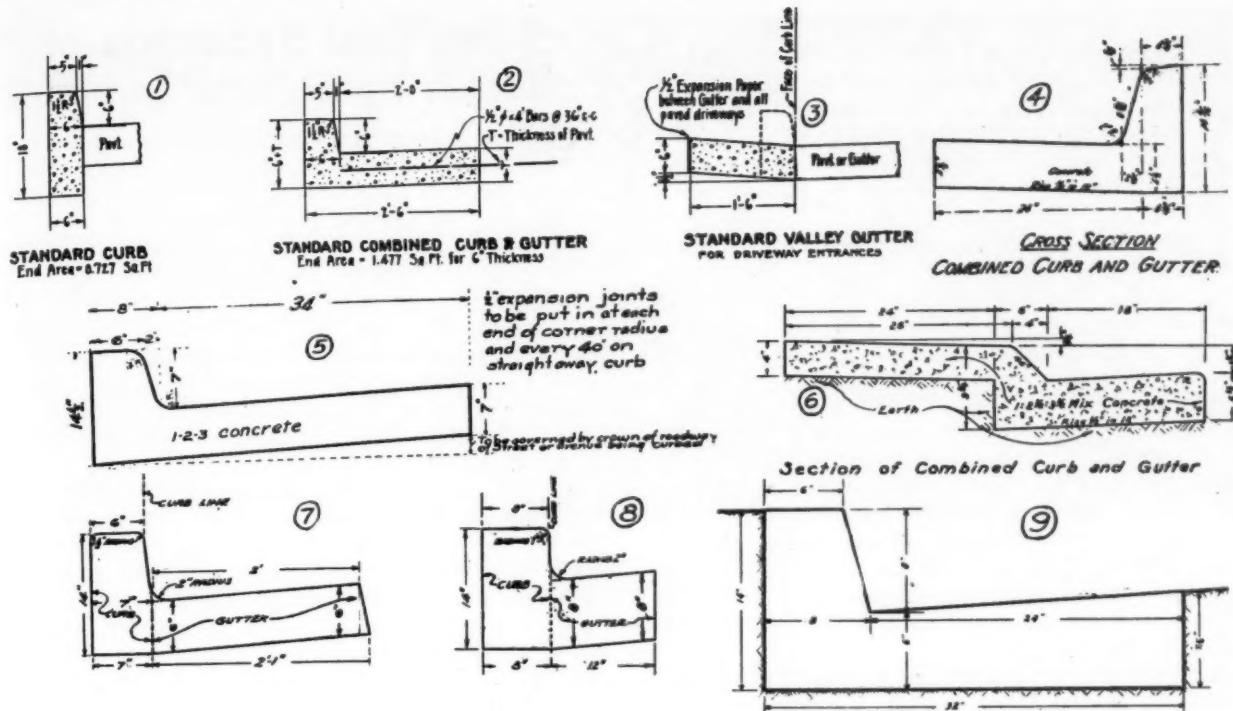

Fig. 1. These curbs and gutters are described in the accompanying text.
In Fig. 1, items 1, 2 and 3 were sent us by S. H. Smith, city engineer of South Haven, Mich. The standard curb, as shown, has a slope of 1 inch, and is 6 inches high and 18 inches deep. The combined curb and gutter is pavement thickness plus 6 inches, and extends 2 feet beyond the curb, being tied to the pavement with $\frac{1}{2}$ -inch round bars, 4 ft. long, spaced 36 inches apart. The standard valley gutter is shown in 3, Fig. 1. Item 4 of Fig. 1 was sent us by Albion K. Vickery, city
engineer of Denver, Colo., as was item 6, just beneath it. The combined curb and gutter (4), is more than 8 inches high and has a slope of $2\frac{1}{8}$ ins. Item 6, Mr. Vickery says, is a new design for one of their proposed improvements districts, consisting of a narrow walk adjoining a sloping 4-inch curb with an 18-inch gutter. Item 5, Fig. 1, was sent us by F. E. Young, city engineer of Cedar Rapids, Iowa, and the illustration shows all essential information.
Items 7 and 8 of Fig. 1 are from Oakland, Calif. C. A. Reed, street improvement engineer, in an accompanying letter says: "The 6-inch curb and 2-ft. gutter are used on our residence streets, with a penetration macadam pavement, and the 8-inch curb and the 1-ft. gutter are used on our main arteries which may be paved with an asphaltic concrete surface course on either a portland cement base or an asphaltic concrete base. Or the 8-inch curb is cast integrally with the pavement, if of concrete."
Archer B. Stuart, city engineer of Healdsburg, Calif., sent us item 9 of Fig. 1, and states in connection with it: "We carry this same batter around corners with a radius of from 12 to 20 ft. or longer. At present we are constructing 30,100 lineal ft. of this curb and gutter with WPA labor at a cost to property owners of 20 cents per front foot. We use a floated and brushed finish with street names and block numbers stenciled eight times at intersections and often in the middle of long blocks. The mix is five sacks (of cement) per yard of clean natural gravel and sand aggregate, which gives a 3000-pound concrete."